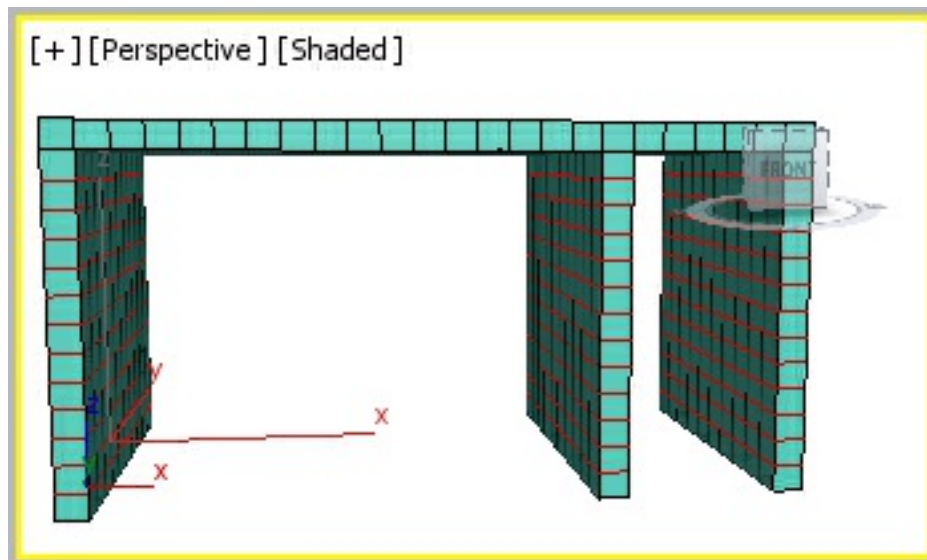

Figure 9-66 Edges added to the computer table
4. In the **Connect** caddy control, set the value **12** in the **Segments** spinner and choose the **OK** button; the edges are added as shown in Figure 9-66.